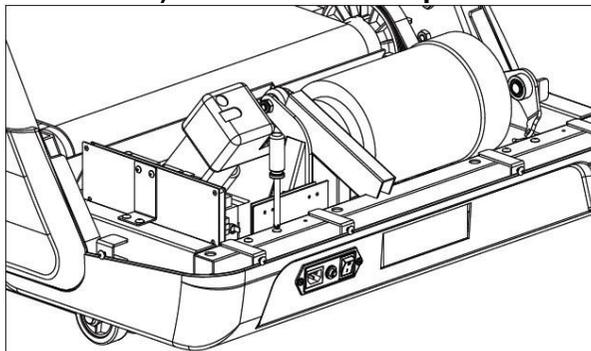

Figure 6.4.1
2) Remove the A/C power switch ground wire using a screwdriver as shown in Figure 6.4.1.